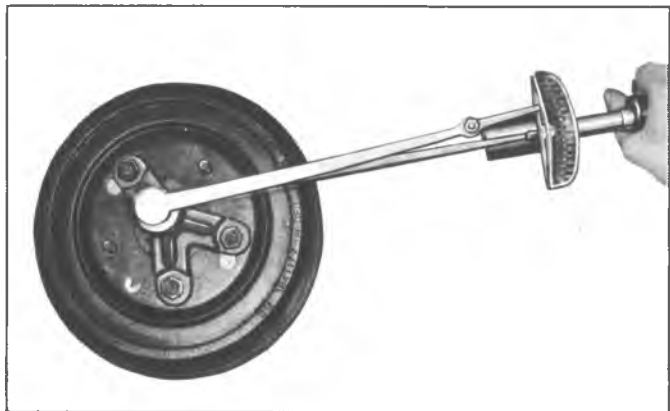

Fig. 14D--Measuring Positraction Rotating Torque
b. Attach Adapter J-5748 to axle shaft flange and install a 1/2-13 bolt into adapter, shown in figure 14D.